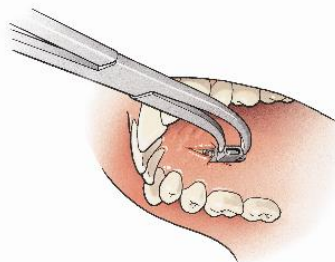
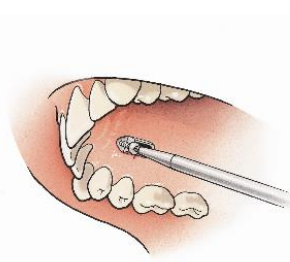

Fig 3
Fig 4
The abutment plates (Ref.03-800A) are placed subperiosteally, on the bone surface (Fig 3). Care should be taken to place the plates high enough, horizontally and opposite to each other. Be aware that the abutment plates are marked left (L) and right (R). The plates are fixed with 7 mm monocortical self-drilling screws of 2,0 mm diameter (Ref.70-707S) (Fig 4).